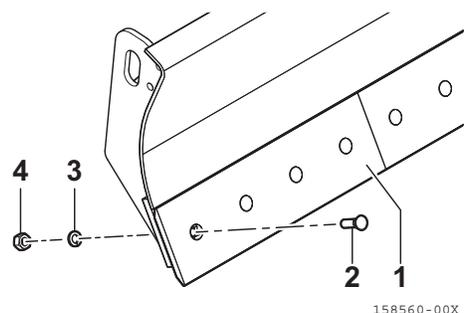

Fig. 8-38
3. Remove 4 mounting bolts (Fig. 8-38, 2), spring washers (Fig. 8-38, 3) and nuts (Fig. 8-38, 4) on plate **A** (Fig. 8-38, 1), and remove plate **A** (Fig. 8-38, 1).
5. Install a replacement plate with new 4 mounting bolts (Fig. 8-38, 2), spring washers (Fig. 8-38, 3) and nuts (Fig. 8-38, 4). Apply the crew lock agent to 4 bolts (Fig. 8-38, 2), and tighten the nuts (Fig. 8-38, 4) with the specified torque.